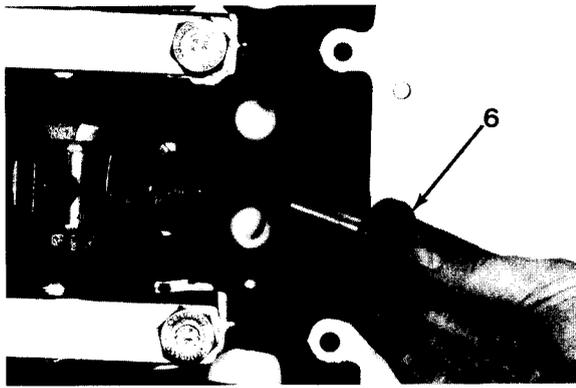
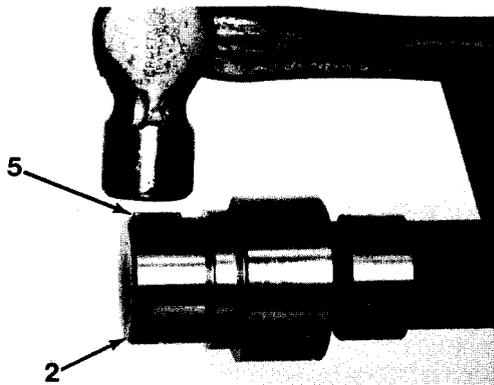

Figure 6-6
Figure 6-10
1. Lubricate eight valve tappets (6, Figure 6-6) with lubricating oil DOD-L-2568 1.
2. Install eight valve tappets (6).
3. Using hammer, install woodruff key (5) on camshaft (2, Figure 6-10).
4. Lubricate camshaft (2) ends, journals and lobes with lubricating oil DOD-L-2568 1.